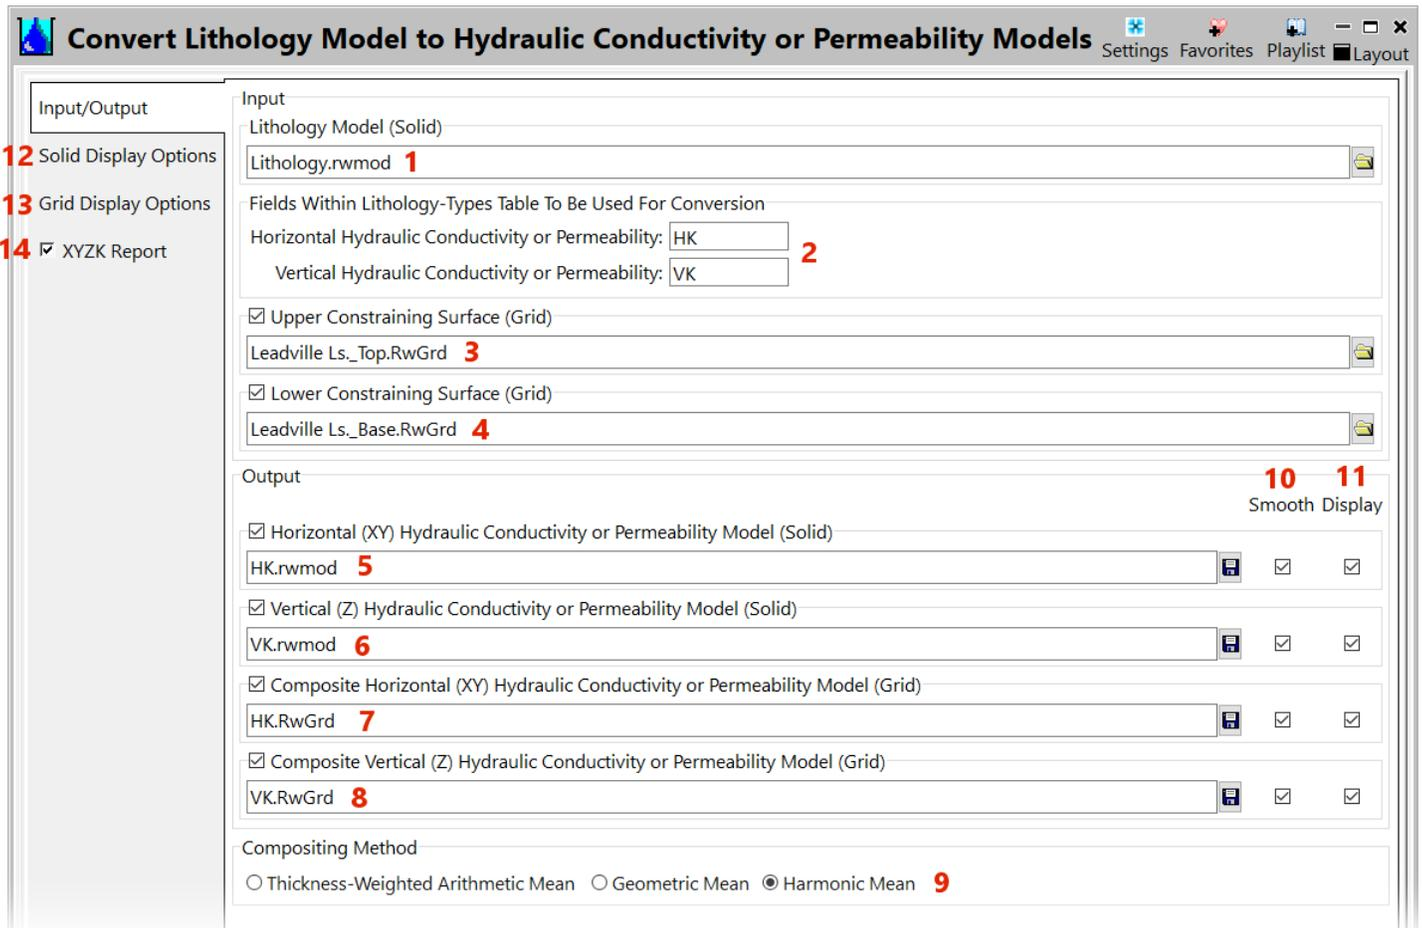

Figure 8
Step 8. Enter the name of the existing lithology model (Figure 8 – Item 1).
Step 9. Enter the names of the two Lithology Types Fields (Figure 8 – Item 2) that were added to the Lithology Types Table in Steps 4 and 5.
Step 10. If the output is to be restricted to a given zone (e.g., a hydrostratigraphic unit), specify the names of existing grid models (Figure 8 – Items 3 & 4) that will limit the output to just the data below the upper constraining surface and/or above the lower constraining surface. Note that the corresponding check-boxes must be checked to enter data into these fields. Also note that it is possible to only use a single surface.
Step 11. If desired, horizontal hydraulic conductivity and vertical hydraulic conductivity solids can be created by checking the boxes and entering the names for the output files (Figure 8 – Items 3 & 4). These models will be created by simply replacing the G-values within the Lithology model with the numbers that were entered into the Lithology Types Table. All node values above or below the constraining surfaces (if used) will be replaced with null (-1.0e27) values.
Step 12. If desired, horizontal hydraulic conductivity and vertical hydraulic conductivity grids can be created by checking the boxes and entering the names for the output files (Figure 8 – Items 7 & 8). These grid models will be created by averaging (see Step 13) all of the solid model voxels within each corresponding grid cell. Cells that do not have any corresponding non-null voxels will be set to null.
Step 13. The available methods used to average the voxels (Figure 8 – Item 9) in Step 12 are defined as follows;
Step 14. Checking the Smooth boxes (Figure 8 – Item 10) will apply simple 3x3 (for grids) or 3x3x3 (for solids) distance-weighted averages to the nodes resulting in less crenulation within the contours and the block models and slightly smoothing the abrupt transitions. For more powerful smoothing, use the Grid/Filters/Smooth and Solid/Filters/Smooth programs.
Step 15. Checking the Display boxes (Figure 8 – Item 11) will cause the program to use the settings within the Solid Display Options menu (Figure 8 – Item 12) and/or the Grid Display Options menu (Figure 8 – Item 13). A notable limitation is that these settings will be applied to all of the possible solid and grid outputs. For more flexibility, it is recommended that the Grid/Display and/or Solid/Display programs be used to independently adjust the display parameters.
Step 16. Checking the XYZK Report option (Figure 8 – Item 14) will save the results of the conversion data as a series of columns (Figure 10) that list the attributes for every voxel within the solid models.